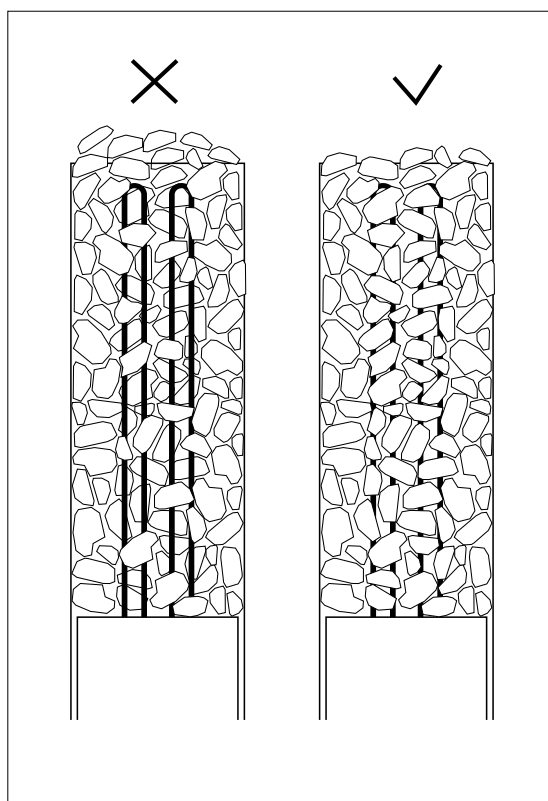

Figure 6.9-1: Placing stones
- The upper casing can be removed when stones are placed in the lower section of the heater (Figure 6.9-1).
- The stones are placed as tightly as possible on the outer edge of the stone compartment so that the heating elements are not visible. A tight layer protects the surrounding materials of the heater from overheating (Figure 6.9-1).
- Do not heap the stones on top of the heater (Figure 6.9-1). The inspection and